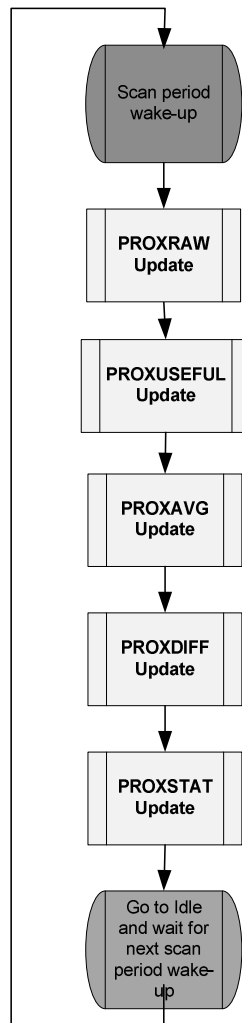

Figure 13: Digital Processing Sequencing
The format of the I2C read is given in Figure 13. After the start condition [S], the slave address (SA) is sent, followed by an eighth bit ('0') indicating a Write. The SX9300 then Acknowledges [A] that it is being addressed, and the Master responds with an 8-bit Data consisting of the Register Address (RA). The Slave Acknowledges [A] and the master sends the Repeated Start Condition [Sr]. Once again, the slave address (SA) is sent, followed by an eighth bit ('1') indicating a Read. The SX9300 responds with an Acknowledge [A] and the read